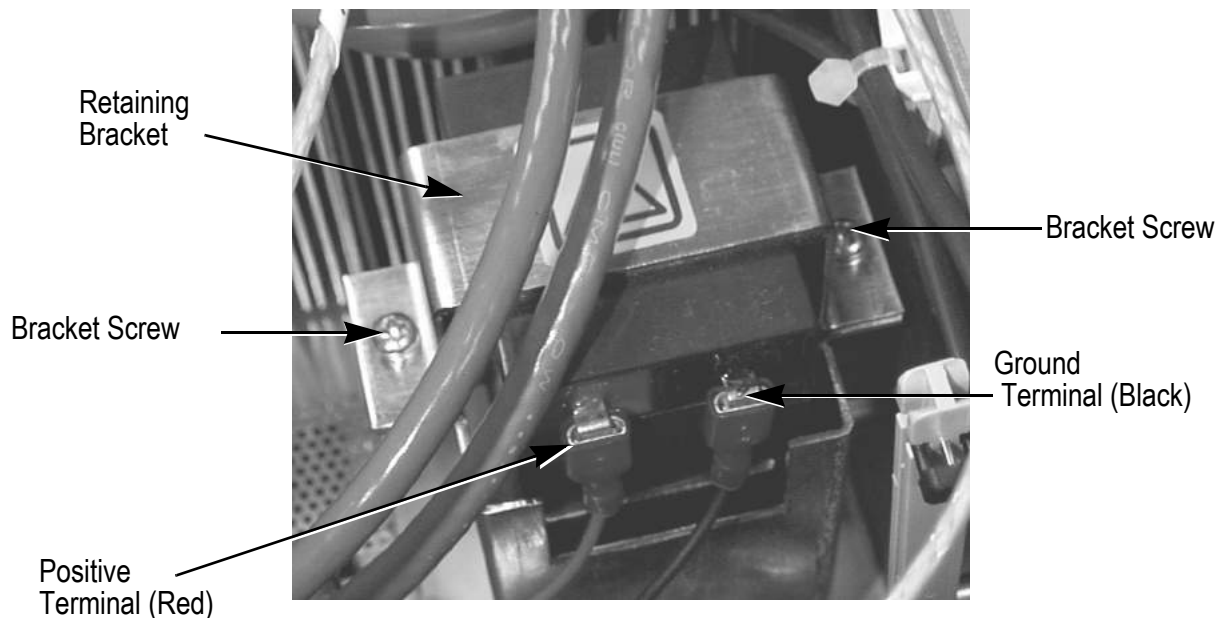

Figure 5.2-1. Power Supply Backup Battery
2. Remove the two Phillips-head screws which secure the battery retaining bracket in place, see Figure 5.2-1, and remove the bracket.